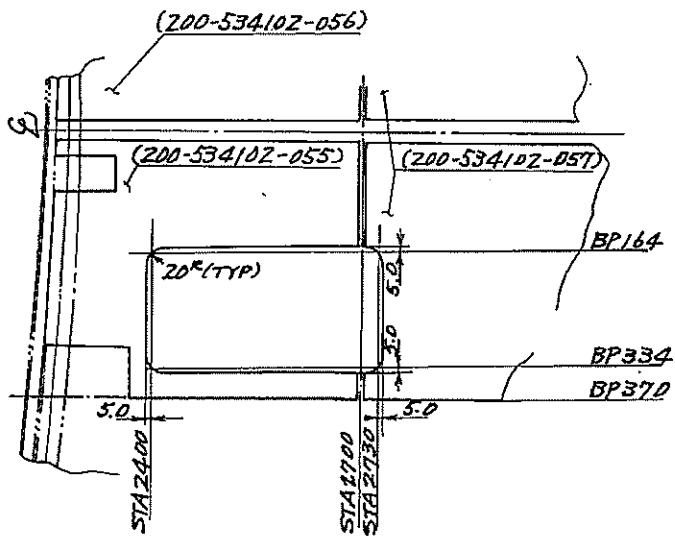

FIG. 3
- (15) Cut out ceiling soundproof blankets, 200-534102-055, -056, and -057 as illustrated in figure 3.
- (16) Install the above blankets in place, using cemedine #540.
- (17) Install ceiling covers.
- (18) Install sliding canopy assy.